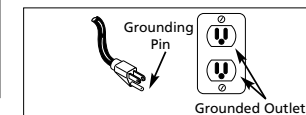

Figure 6 - Grounding Method
- This product is for use on a nominal 120 volt circuit and has a grounding plug that looks like the plug illustrated in Figure 6. Only connect the product to an outlet having the same configuration as the plug. Do not use and adapter with this product. In the event of an electrical short circuit, grounding reduces risk of electrical shock by providing an escape wire for electric current. This product is equipped with a cord having a grounding wire with an appropriate grounding plug. Plug must be plugged into an outlet that is properly installed and grounded in accordance with all local codes and ordinances.